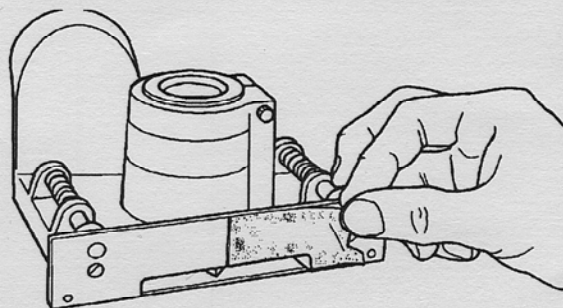

Fig. 1
4. Peel off the backing from the right Abrasive Guide Strip and carefully attach it to the face of the guide. Align the inside edge of the Abrasive Guide Strip with the guide's center line and the top edge with the top of the guide. See Fig. 1. Do not cover the center line. Starting with the edge nearest the guide's center line, press the Abrasive Guide Strip on the face of the guide.